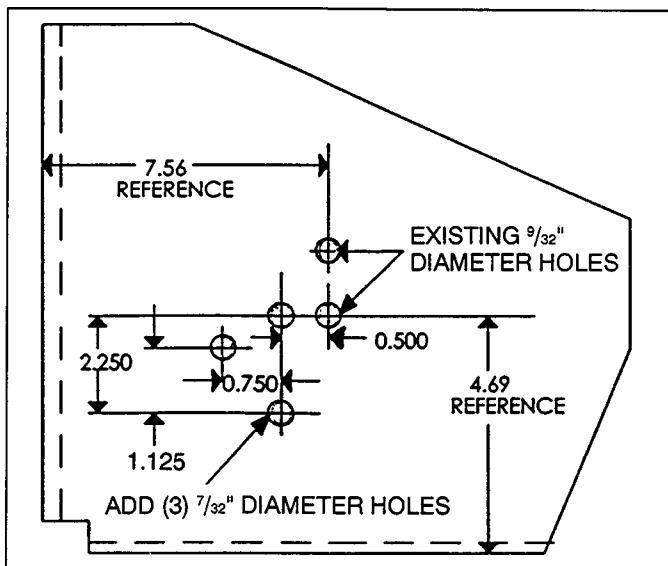

Fig. 3-4. Mounting Hole Pattern
1. Add the flux shifter mounting holes to the left side of the front frame. The drill pattern for the required three (3)  $\frac{7}{32}$ " diameter holes is given in Fig. 3-4.
2. Remove the side bracket from the frame and drill holes as shown in Fig. 3-4. Return the side bracket to its original location upon completion of this step.
Drill the flux shifter mounting holes at the left side of the front frame. The drill pattern for the required three (3)  $\frac{7}{32}$ " diameter holes is shown in Fig. 3-4.